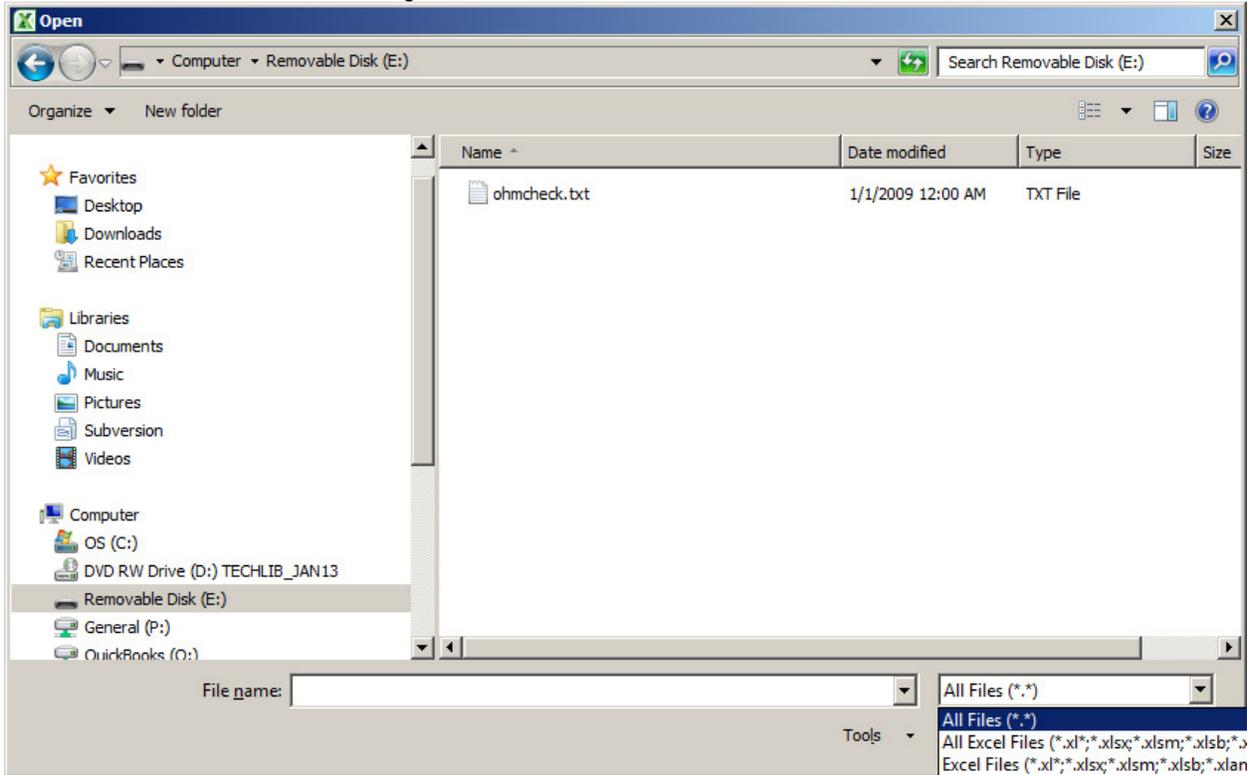

Figure 6
3. Select down-arrow in righthand dropbox and select 'All files (*.*)'. Ohmcheck.txt should appear in file window as shown in Fig6. below.